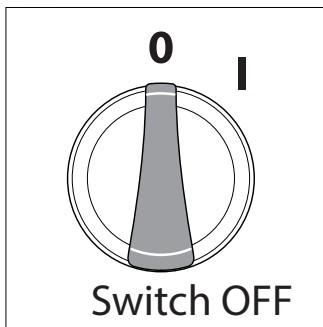
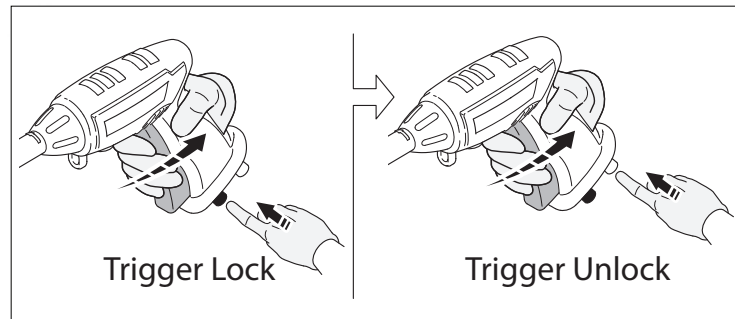

Fig. 5
Fig. 6
- To lock the trigger of the spray gun, make sure power is off (O) (**Fig. 5**) aim the spray gun away from you and push the lock button up, (**Fig. 6**) after doing so, squeeze or pull the trigger